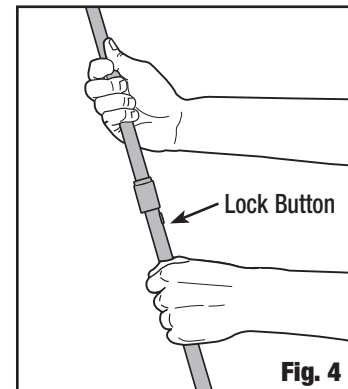

Fig. 4
- Extend each of the telescoping leg poles until they snap into place. The screenhouse will raise as the leg poles are extended. (Fig. 4)
- Lower the frame one leg pole at a time by pushing the lock buttons and collapsing the telescoping leg poles. (Fig. 4)